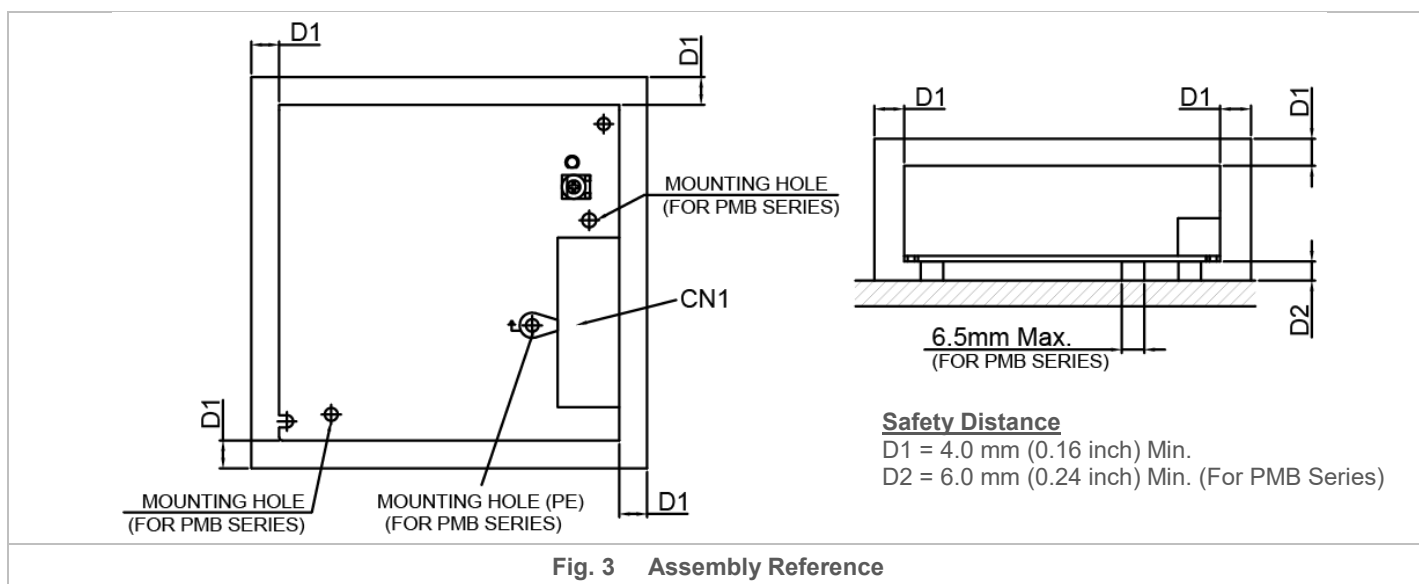

Fig. 3 Assembly Reference
- **PM□-12V35W1AA□ / PM□-12V35W1AG:** Use flexible cable (stranded or solid) of AWG No. 22-12. User should calculate and select the suitable wire specification (type/quantity/diameter) according to actual output current. The torque at the Connector shall not exceed 13Kgf.cm (11.23 lbf.in). The insulation stripping length should not exceed 0.275" or 7mm (Refer to Fig. 3).
- **For PMB Series: (Refer to Fig. 3):** The mounting holes on any mounting accessories for the device should be kept at a diameter of  $< 6.5\text{mm}$  (0.26 inch). This is to ensure sufficient safety distance between the mounting screw and the components around the mounting holes on the PCBA. Therefore, the diameter of the mounting screw should be kept at  $< 6.5\text{mm}$  (0.26 inch).